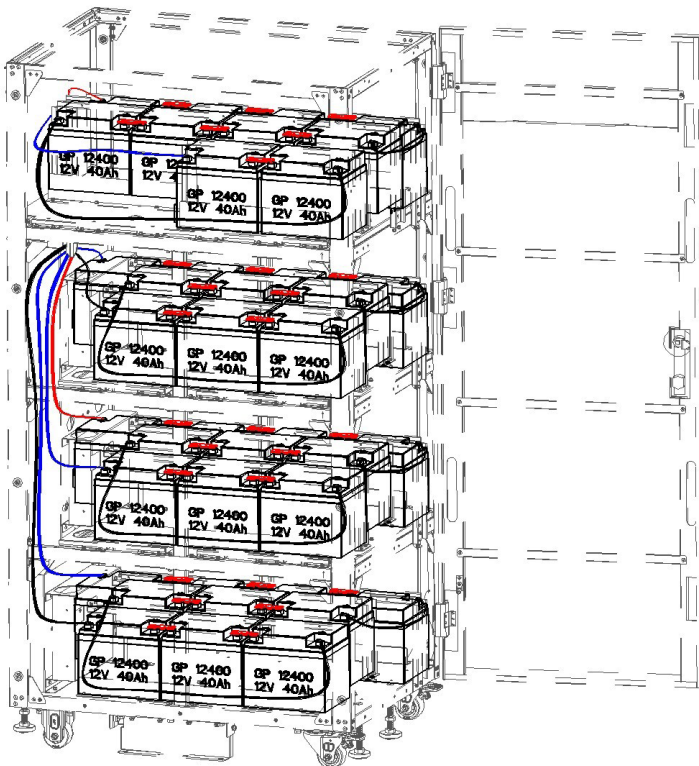

Figure 5-52A
13. Connect the cables from battery 1+ to BAT+ copper bar, battery 10- to BAT N copper bar, battery 11+ to BAT N copper bar, battery 20- to BAT- copper bar and the layer's connecting cables (Figures 5-52A and 5-52B).